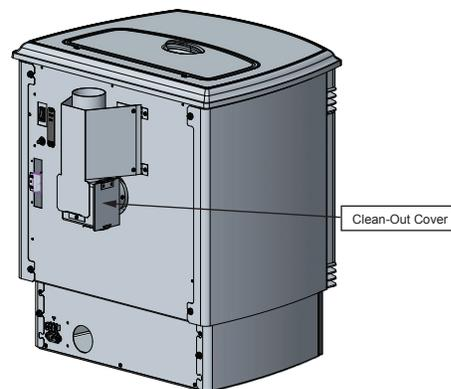

Figure 6
- After performing regular cleaning of venting, open the clean-out cover and vacuum out debris; close when complete (Figure 6).